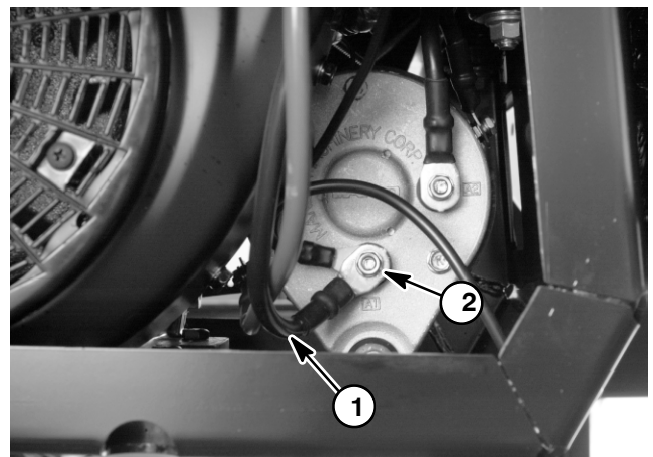

Figure 15
- A. Disconnect ground cable to engine at starter/generator terminal A1 (Fig. 15).
12. Remove four (4) flange nuts and cap screws securing the engine to the engine tray.
A. Connect ground cable from the engine at starter/generator terminal A1 (Fig. 15).